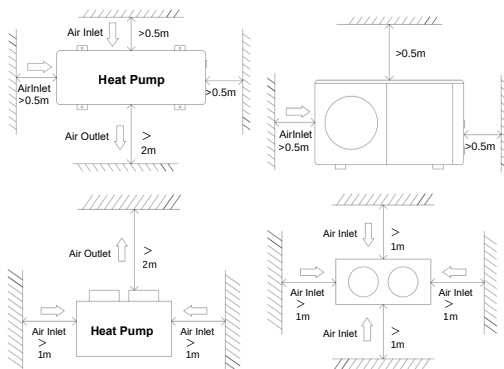

Figure 1
4. For easier and better maintenance and troubleshooting, no obstacles should be closer than 500 mm to the unit. And for ventilation, there should be no obstacles within a 2 m vertical distance from the unit. (See Figure 1)